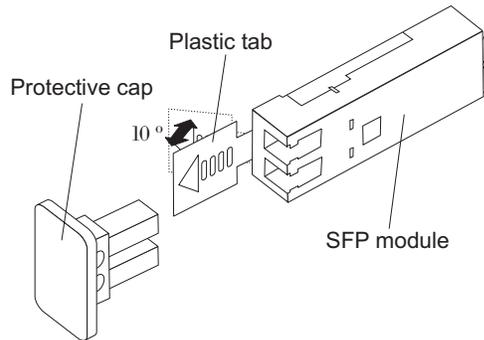

Figure 27. Unlocking the SFP module latch - plastic variety
- For SFP modules that contain plastic tabs, unlock the SFP module latch by pulling the plastic tab outward 10°, as shown in Figure 27.